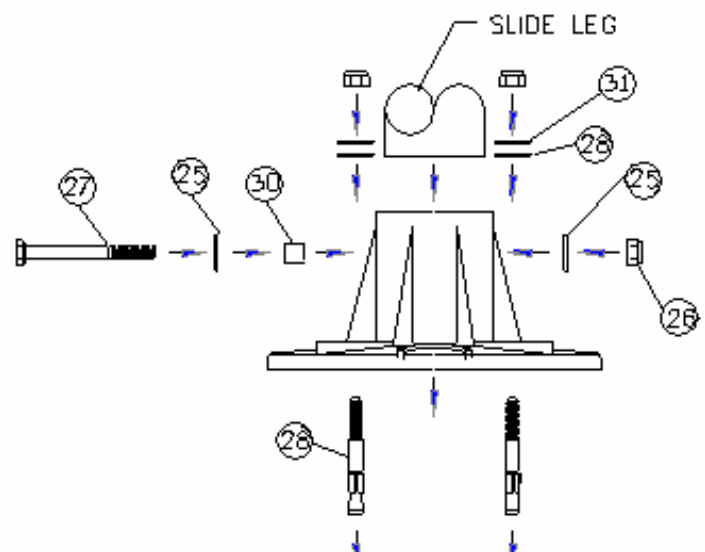

Figure 25
- 3) Using the four holes on each flange as a template (see Figure 25 below), drill four 5/16" holes per flange 1-3/8" deep. CAUTION: Do not drill holes larger than 5/16". Maintain drill hole straight and perpendicular for proper holding strength of anchor stud.
- 8) Drill a 1/4" diameter hole into the slide leg through the 3/8" diameter hole in the flange. Insert the (#30) 3/8" O.D. Aluminum Bushing into the hole in the deck flange and push in until it contacts the slide leg. Now insert the (#27) 1/4"-20UNC x 2-3/4" Hex Head Cap Screws and (#25) 1/4" x 5/8" Flat Washers through the bushing and in about a 1/2" into the hole in the slide leg. With the cap screw in position, drill a 1/4" hole into the slide leg through the 5/16" diameter hole in the opposite side of the deck flange. Take care not to run the drill bit into the 1/4" bolt. Push the cap screw completely through the slide leg. Install the (#25) 1/4" x 5/8" Flat Washers and (#26) 1/4"-20UNC Hex Lock Nuts (see Figure 25).